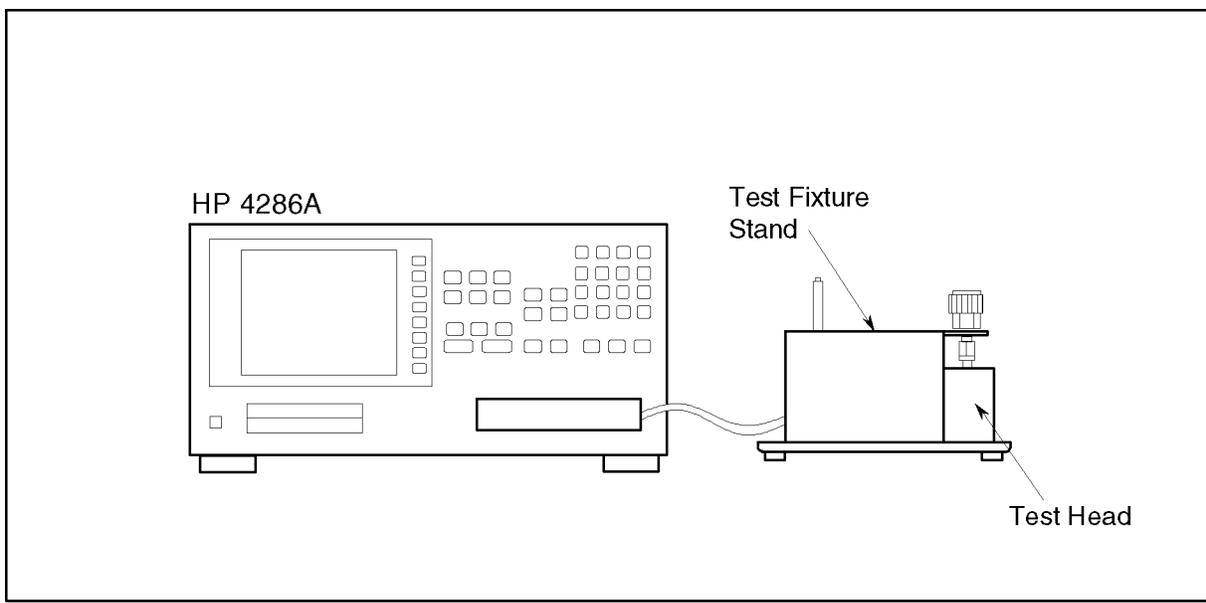

Figure 2-3. Impedance Measurement Accuracy Test Setup
1. Connect the test head to the main frame, and set the test head on the test fixture stand. Then connect the APC3.5(m)-APC7 adapter to the test head. In the case of option 021/022 (Straight Angle Test Head), use the APC3.5(m)-APC3.5(f) right angle adapter to connect the APC3.5(m)-APC7 adapter to the test head. See Figure 2-3.